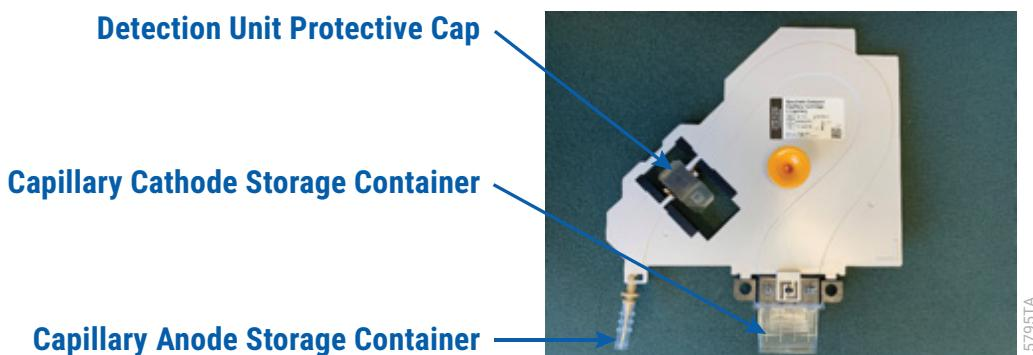
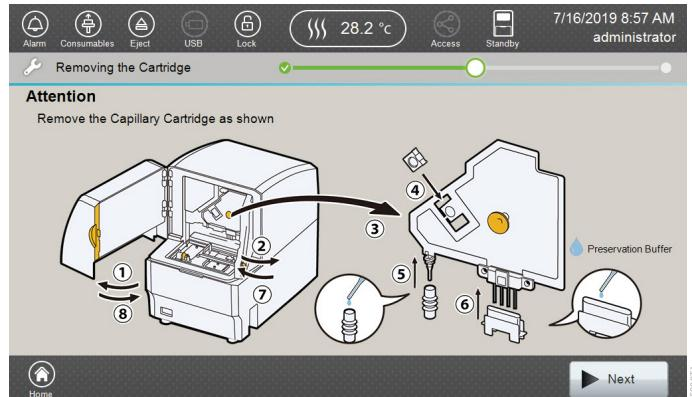

Figure 35. Spectrum Compact Capillary Cartridge protective covers.
Figure 40. 'Removing the Cartridge' screen.
7. Remove the protective covers from the detection unit, anode and cathode (Figure 35). Save these if you intend to store the array outside of the instrument at a later date (see Section 3.3).
4. Select **Next**. A warning dialog stating 'Autosampler is moving. Do Not open door' is displayed while the status indicator flashes green. The status indicator returns to steady green when the 'Removing the Cartridge' screen is displayed (Figure 40).
5. Open the instrument door when the 'Removing the Cartridge' screen is displayed (Figure 40).
8. Hold the yellow gripping knob on the front of the Spectrum Compact Capillary Cartridge (Figure 41). Detach by lifting the bottom portion of the capillary cartridge out first, followed by the top left part by the detection unit, as indicated by Step 3 of Figure 40.
9. Attach the detection unit cover on the detection unit as indicated in Step 4 of Figure 40.
10. Fill the capillary anode cover (Figure 35) with 400 μ l of Capillary Preservation Buffer. Slide the filled capillary anode cover onto the anode as indicated in Step 5 of Figure 40.
11. Fill the capillary cathode cover (Figure 35) with 4ml of Capillary Preservation Buffer. Attach the filled capillary cathode cover onto the cathode as indicated in Step 6 of Figure 40.
13. Close the door of the oven unit and the front door of the instrument. The status indicator flashes amber while autosampler returns to home position, then returns to steady green. Select **Next** on the 'Removing the Cartridge' screen (Figure 40), followed by **Finish** on the subsequent 'Uninstall Completed' screen.